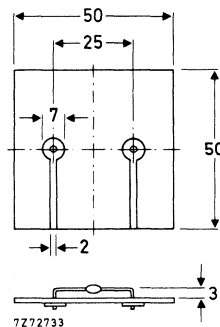

Fig. 2.
2. Thermal resistance from junction to ambient when mounted on a 1,5 mm thick epoxy-glass printed-circuit board; Cu-thickness $\geq 40\ \mu\text{m}$; Fig. 2